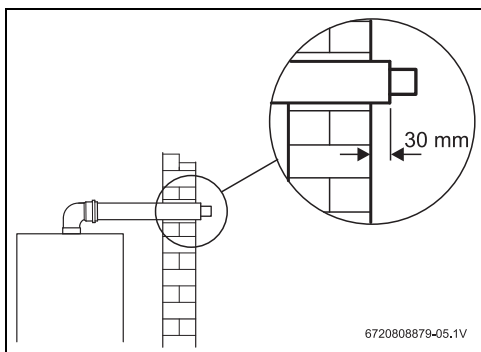

Fig. 7 Dimensions
- ▶ Ensure that the distance between the end of the inlet air pipe and the facade is no greater than 30 mm (Fig. 7).